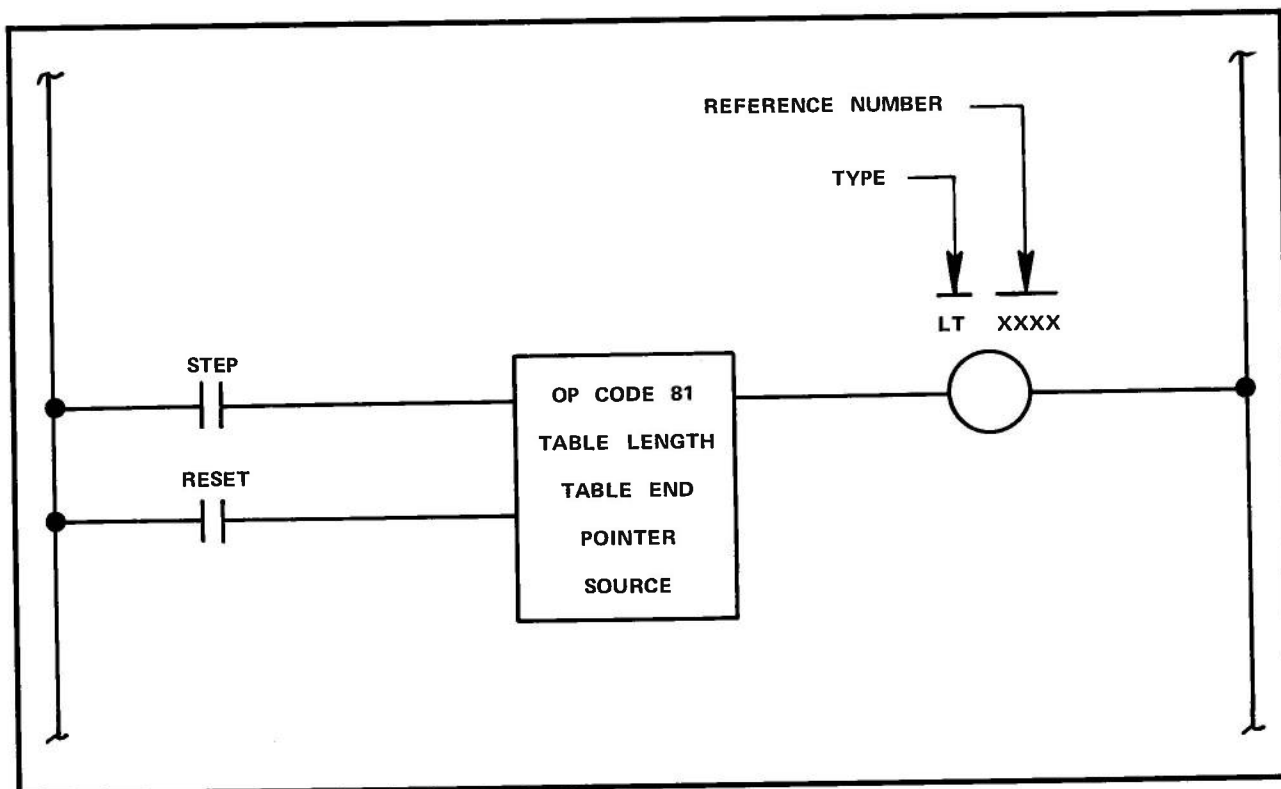
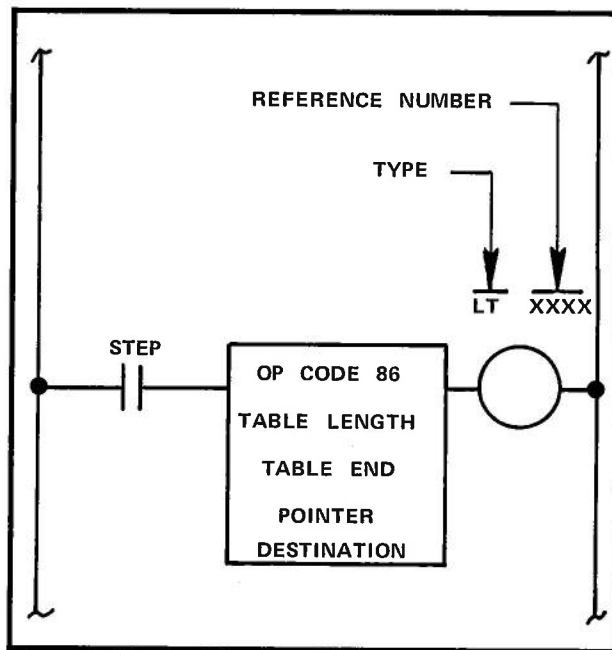

Figure 1. First In Stack (FI)
Figure 2. Last Out Fetch (LO)
The FILO Stack function is a combination of two functions: the First In Stack (FI) function, and the Last Out Fetch (LO) function. In the FI/LO functions, the first data entered is the last data retrieved. FI function symbology is shown in Figure 1; LO function symbology is shown in Figure 2.